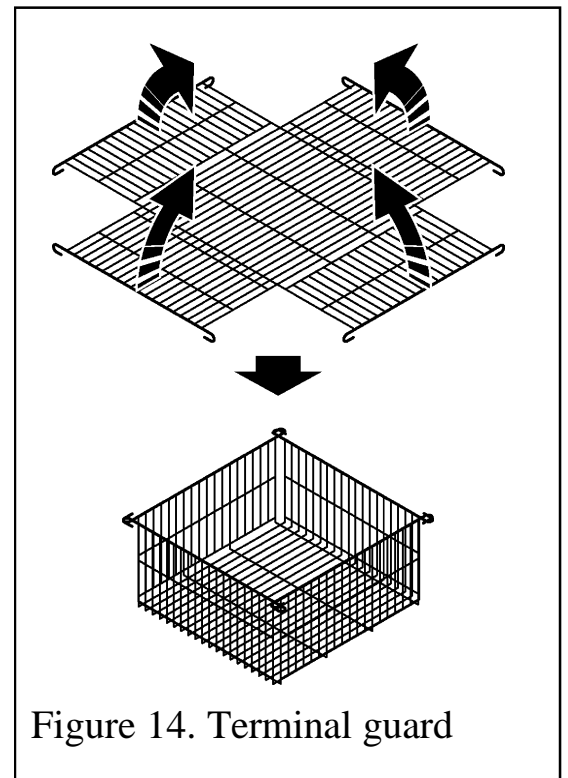

Figure 14. Terminal guard
- Fold the terminal guard as shown in figure 14.